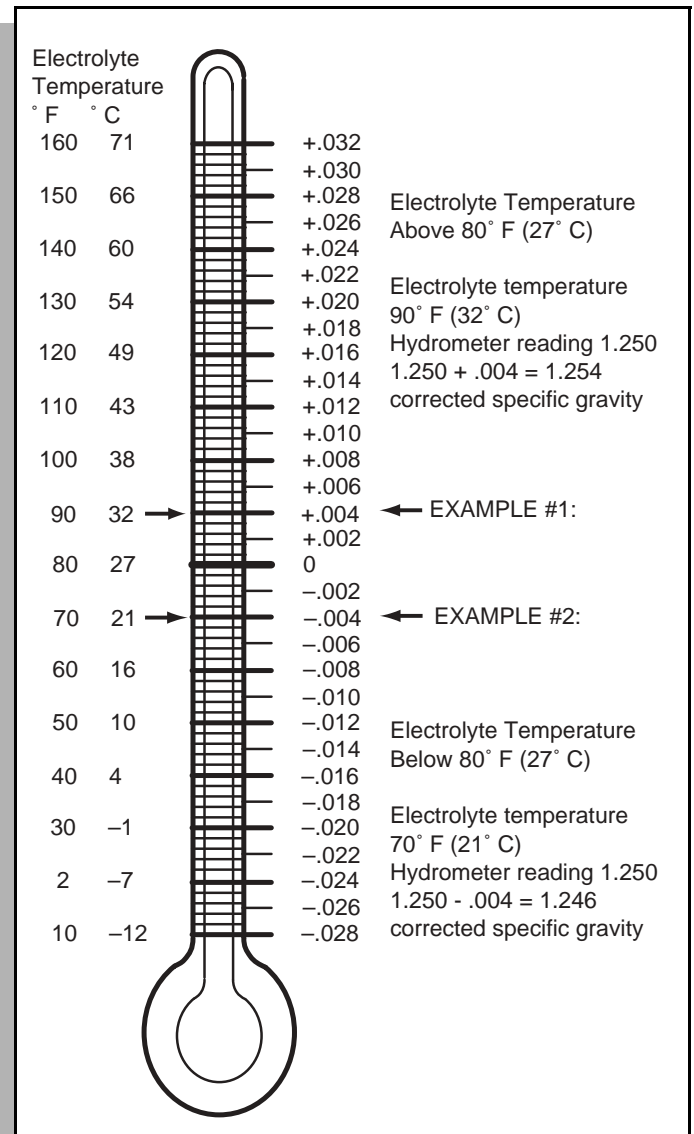

Fig. 25 Hydrometer Temperature Correction
4. Add or subtract four points (.004) to the reading for every 10° F (6°C) the electrolyte temperature is above or below 80° F (27° C). Adjust the reading to conform with the electrolyte temperature, e.g., if the reading indicates a specific gravity of 1.250 and the electrolyte temperature is 90° F (32° C), **add** four points (.004) to the 1.250 which gives a corrected reading of 1.254. Similarly if the temperature was 70° F (21°C), **subtract** four points (.004) from the 1.250 to give a corrected reading of 1.246 (Ref Fig. 25 on page 21).